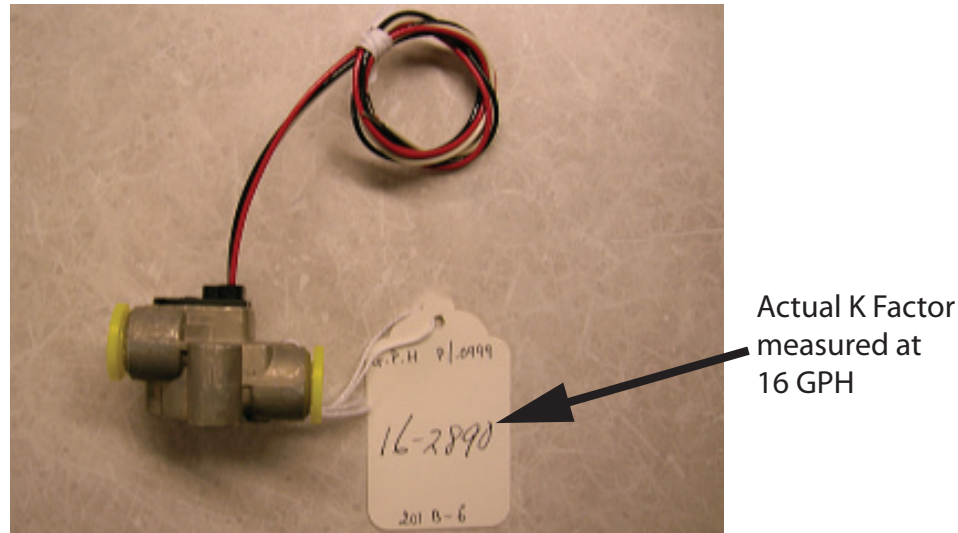

Figure 8-18 Example Floscan Fuel Flow Sensor
If the Floscan tag shown in Figure 8-18 is lost, the serial number of the Floscan sensor can be supplied to Floscan to obtain the calibrated K factor value.
The tag shown in Figure 8-18 lists a K Factor of 16-2890. The first two digits (16) represent Gallons Per Hour, while the last four digits (2890) represent the number of electrical pulses (divided by 10) output by the sensor per gallon of fuel flow. The numbers on the tag are used in determining the K-Factor to be entered as part of the Fuel Flow Calibration described in Section 8.3.3. To determine this number, a zero should be added to the four digit number on the tag. In the example above after adding the zero to 2890, the resulting K-Factor to be entered on the Fuel Flow Calibration page would be 28900.